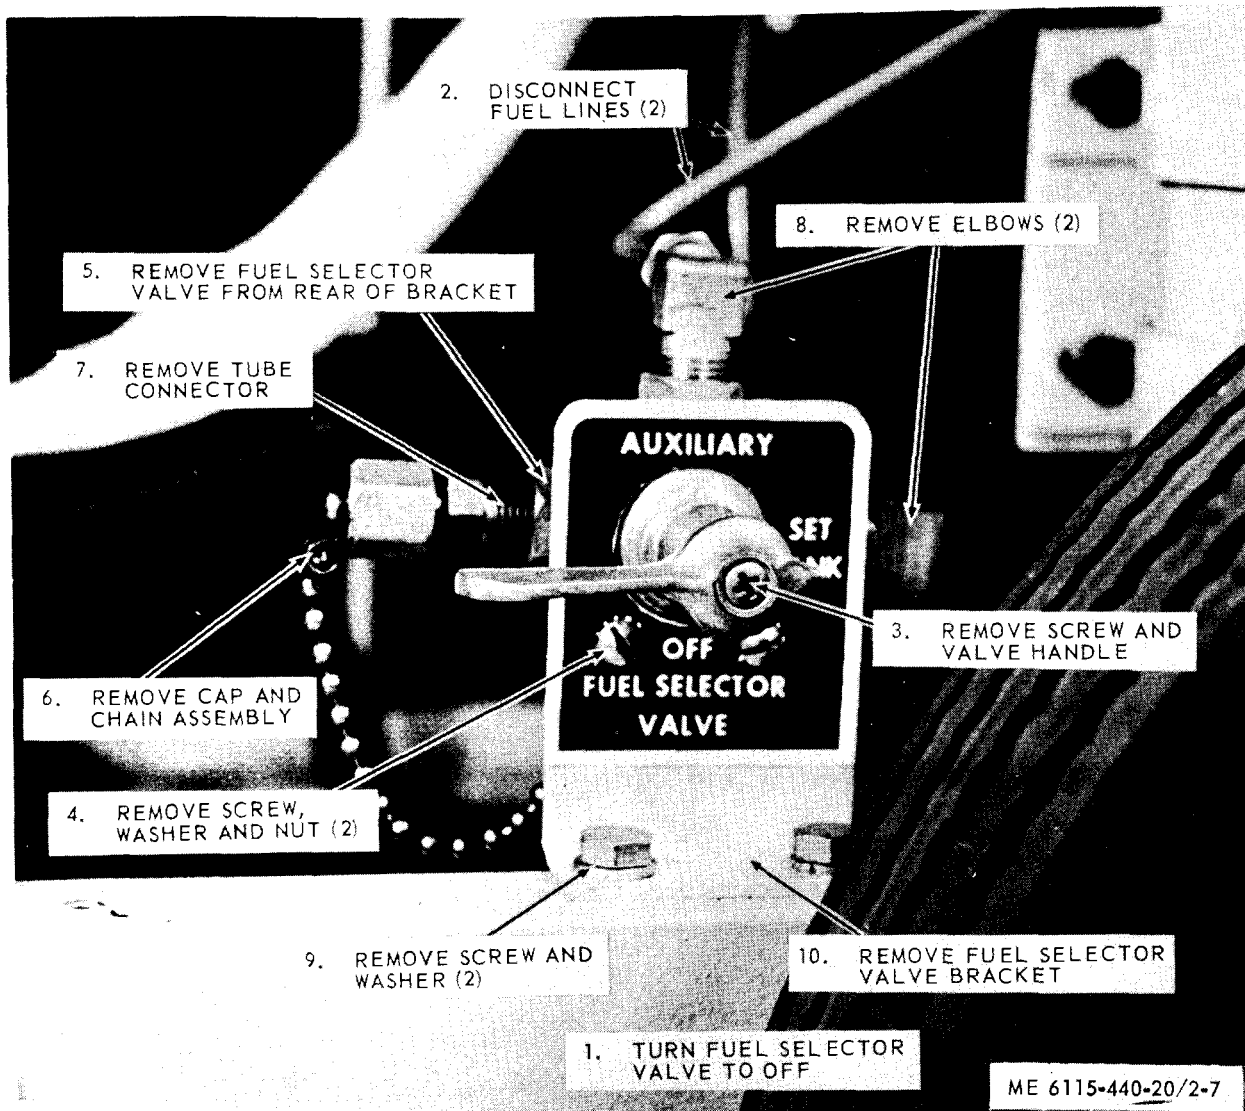

Figure 2-7. Fuel selector valve and bracket, removal and installation.
- (1) Drain fuel tank (TM 5-6115-440-10).
- (2) Refer to figure 2-7 and remove the fuel selector valve and bracket.
- (1) Refer to figure 2-7 and install the fuel selector valve and bracket.
- (2) Fill fuel tank (TM 5-6115-440-10).